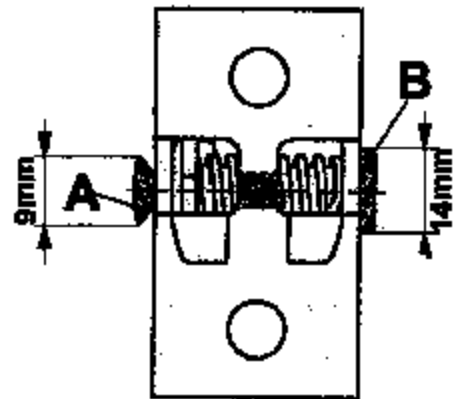

Figure 1
3. Using a caliper gauge as shown in Figure 1, measure the rivet head diameter (Figure 1, Item A).
Note: The diameter of the pin head (Figure 1, Item B) of approximately 14 mm is not important for the campaign.